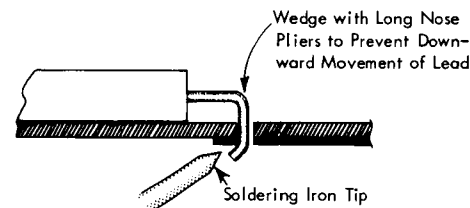

Figure 85. Component Removed
1. Straighten the component leads that are bent over on the wiring side of the board. Figure 85 illustrates a